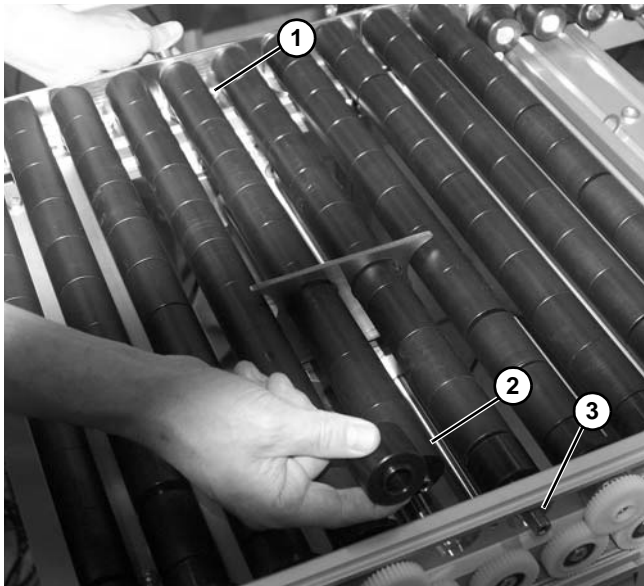

Figure 121
11. Pull rod end (**Figure 121, item 1**) slightly out, and remove rollers (**Figure 121, item 2**) from rod.
12. Repeat for rollers on second rod (**Figure 121, item 3**).